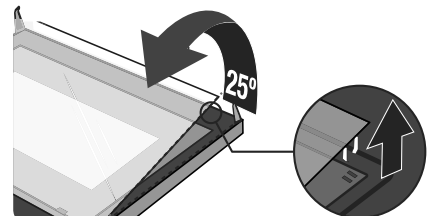

Figure 4
4. Separate the glass carefully by lifting it approximately 25° . (Figure 4)